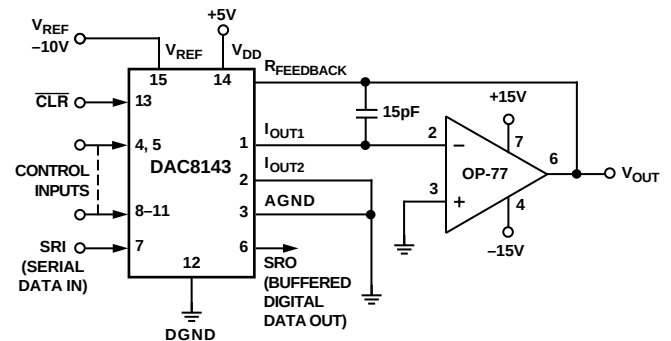

Figure 16. Unipolar Operation with High Accuracy Op Amp (2-Quadrant)
1. Phase compensation (see Figures 16 and 17).
The circuit shown in Figures 16 and 17 may be used with an ac or dc reference voltage. The circuit's output will range between 0 V and $+10(4095/4096)$ V depending upon the digital input code. The relationship between the digital input and the analog output is shown in Table II. The V_{REF} voltage range is the maximum input voltage range of the op amp or ± 25 V, whichever is lowest.
¹Nominal full scale for the circuits of Figures 16 and 17 is given by
²Nominal LSB magnitude for the circuits of Figures 16 and 17 is given by
The transfer function for the DAC8143 connect in the multiplying mode as shown in Figures 16 and 17 is:
In most applications, linearity depends on the potential of I_{OUT1} , I_{OUT2} , and AGND (Pins 1, 2 and 3) being exactly equal to each other. In most applications, the DAC is connected to an external op amp with its noninverting input tied to ground (see Figures 16 and 17). The amplifier selected should have a low input bias current and low drift over temperature. The amplifier's input offset voltage should be nulled to less than $\pm 200 \mu V$ (less than 10% of 1 LSB).